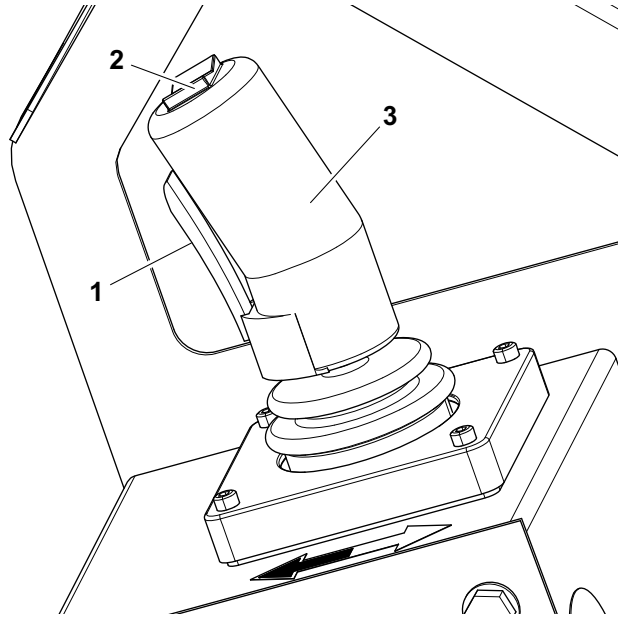

Figure 3-7. Platform Control Components
(Item 2 - Figure 3-7.)
(Item 1 and 3 - Figure 3-7.)
4. Squeeze and hold the trigger switch, and move the joystick back (platform up - white arrow direction) or move the joystick forward (platform down - black arrow direction) and hold until desired elevation is reached. Releasing the trigger switch or moving the joystick back to it's center position will stop the function being operated. (Item 1 and 3 - Figure 3-7.)